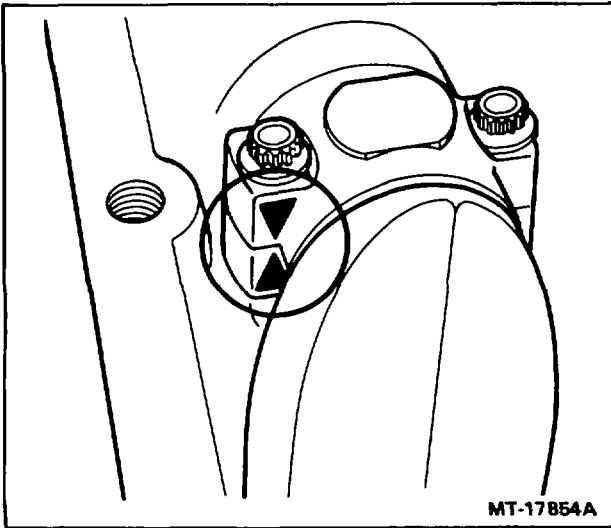

Figure 12 - Connectin
3. Position connecting rod bearing inserts in rod and bearing cap, making sure that the locating lips on inserts engage the locking notches in rod and cap. Insure that arrows on caps and rod match as shown in Figure 12. Also, make sure that the rod cap is installed on rod from which it was removed.